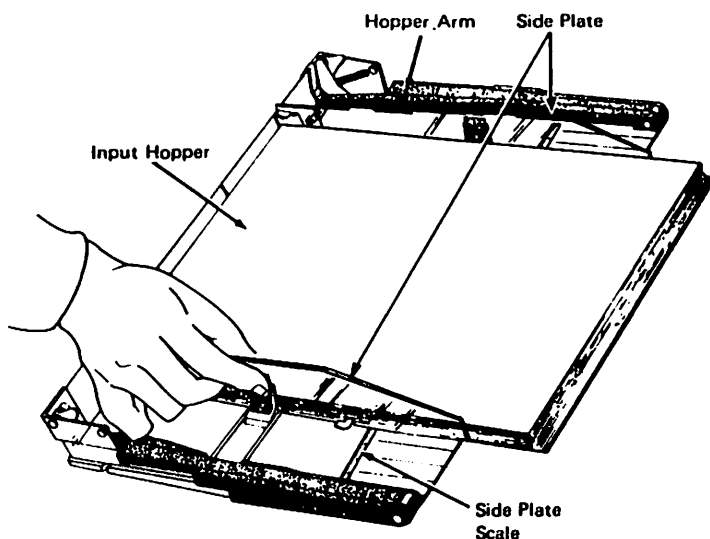

Figure 27 Loading paper
1. Push down on the left and right hopper arms until they latch (Figure 27).
1. For bin feeder 1, push down on the left and right hopper arms of input hopper until they latch (Figure 27).